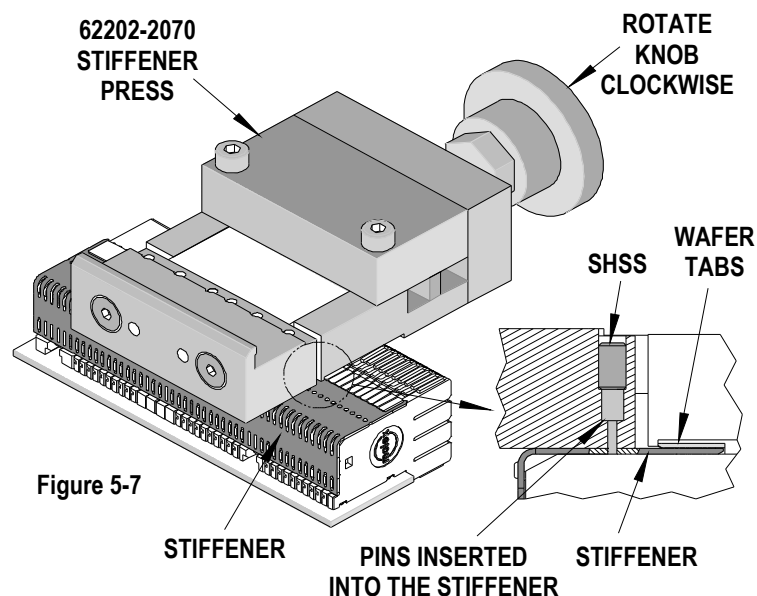

Figure 5-7
Before using the Stiffener Press, make sure the orientation of the tool is in the right position and the pins of the tool are facing down towards the stiffener. To remove stiffener, place the small pins in the tool into the round holes of the stiffener while locating the rib on the tool against the wafer tabs that extend through the stiffener. Then rotate the knob clockwise (CW) to push the stiffener off of the wafers. See Figure 5-7 and 5-8.